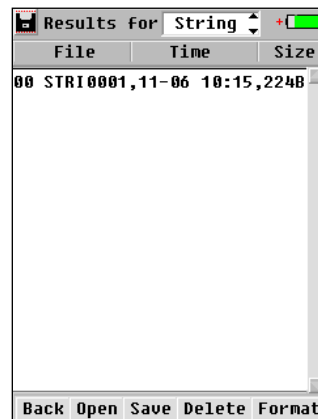

Fig. 3.3.2
**Open**: Click this button to view the testing result as Fig. 3.3.2 and Fig 3.3.3.